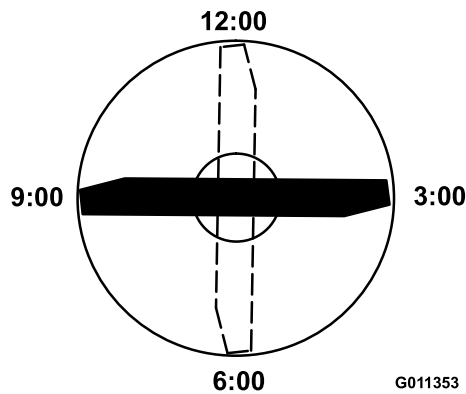

Figure 14
4. Position the cutting edge of the marked end of the blade at 12 o'clock (straight ahead in the direction of mowing) (Figure 14) and measure height from table to cutting edge of blade.
5. Rotate the marked end of the blade to the 3 and 9 o'clock positions (Figure 14) and measure the heights.